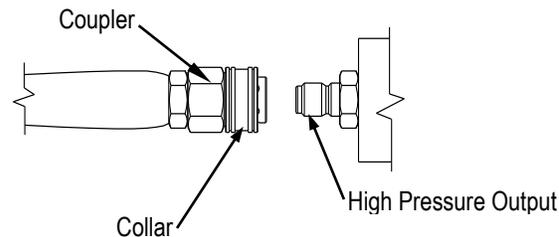

Figure 2b
- 3) Release the collar, making sure it springs back and re-seats to its original (non-retracted) position (figure 2b). Check the connection by pulling on the hose to ensure a positive connection.